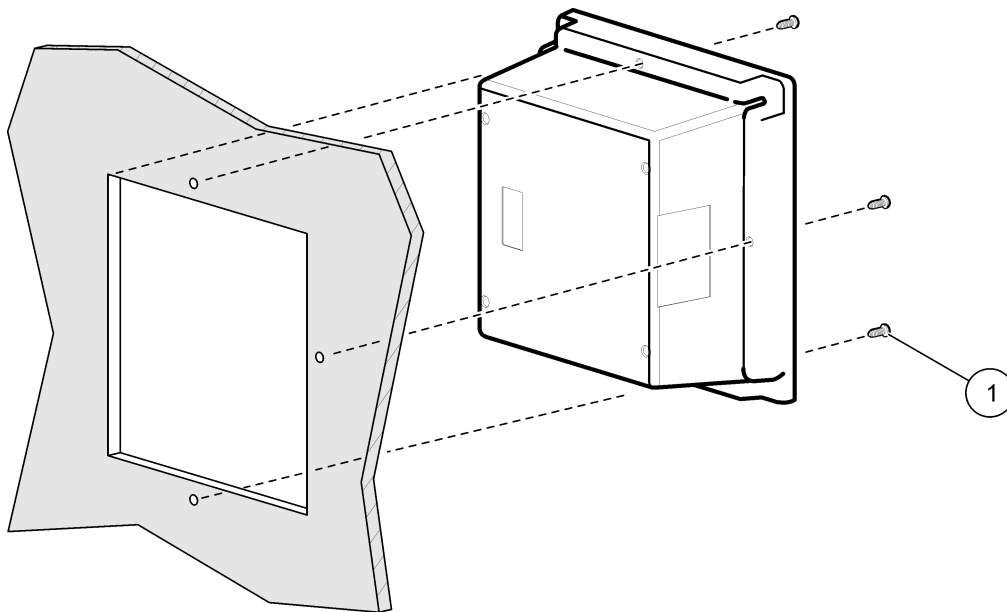

Figure 5 Panel mounting
6. Cut out the panel hole and drill three pilot holes for the screws (Figure 5 on page 5).